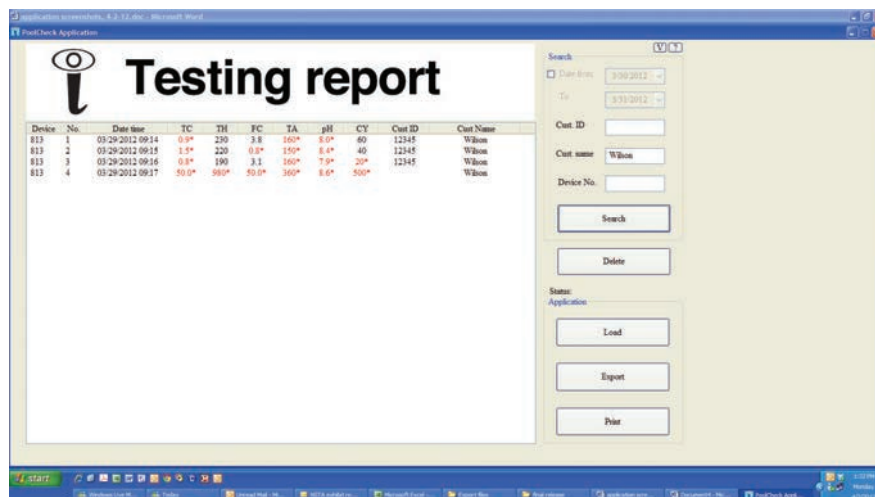

Figure 10 - Customer Name Search results
3. The data matching that Customer Name will be displayed on the main screen (Fig 10).